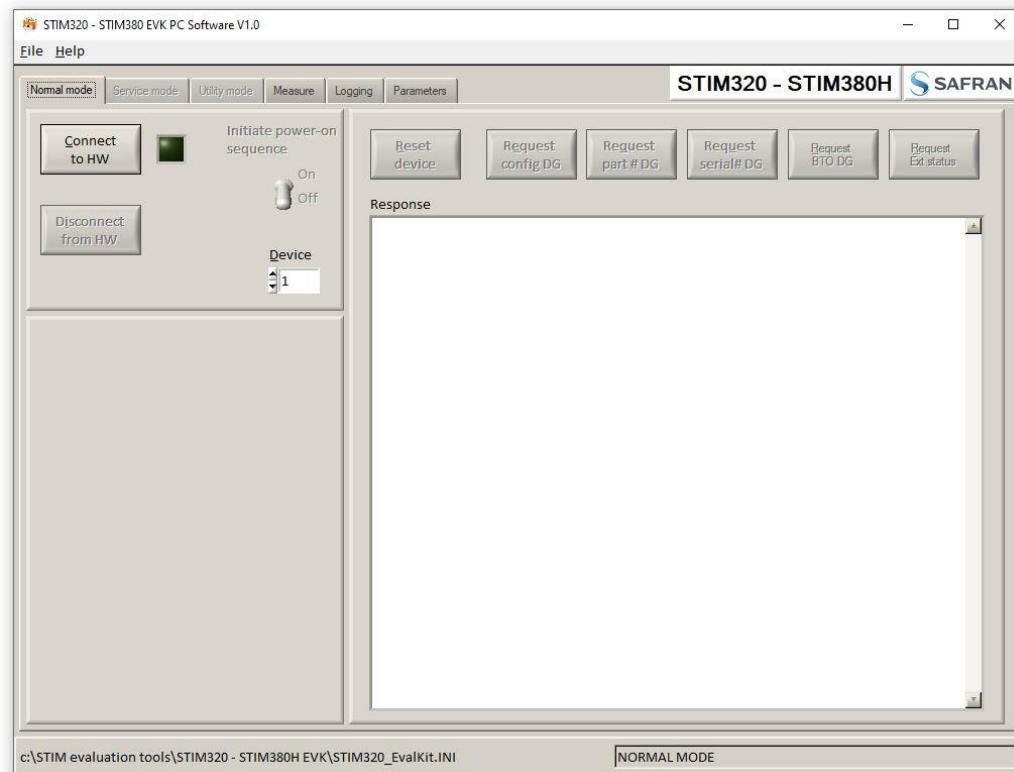

Figure 17: Normal mode panel after selecting INI-file
10.A green LED (Data arriving from device n) indicates that data is received from the IMU(s). Verify the communication to module by clicking on the 'Request serial# DG' button. An example of such a result is shown in Figure 17. The system is now ready for use.